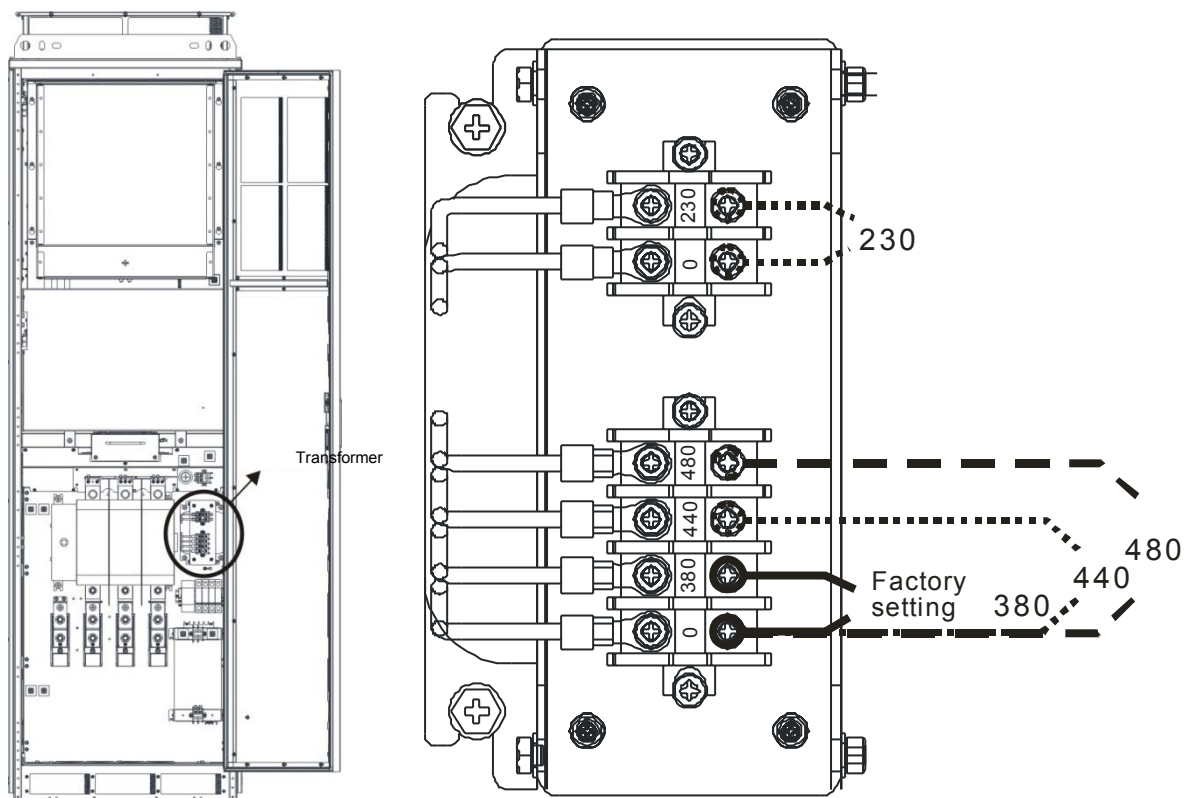

Figure 3-2 Transformer adjustment
- (1) Only suitable for APF200A43X-XX/APF300A43X-XX models.
- (2) Verify the voltage of the input power, before adjusting the APF's voltage.
- (3) The Active Power Filter's factory setting is 380Vac, as shown in figure 3-2.
- (4) We provide 230V/380V/440V/480V voltages for selection; users can select suitable voltages for their own equipment. Please refer to table 3-2 Voltage range
- (5) Before adjusting voltage, remove the transparent top cover and start wiring. After wiring is complete, be sure to return the transparent top cover to its original position. Screw M4: Torque: 11.2~13.3kg-cm [9.72~11.54lb.in](1.1~1.3N.m).